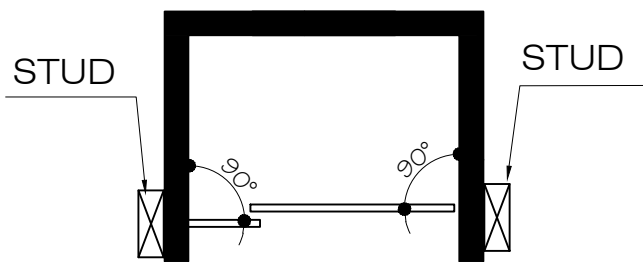

FIG.1
- Ensure that there is sufficient structural support behind the shower wall to hold the weight of the shower door. If there is insufficient support, then reinforce the shower walls with wooden studs prior to shower door installation. [SEE FIG.1 on page 4]